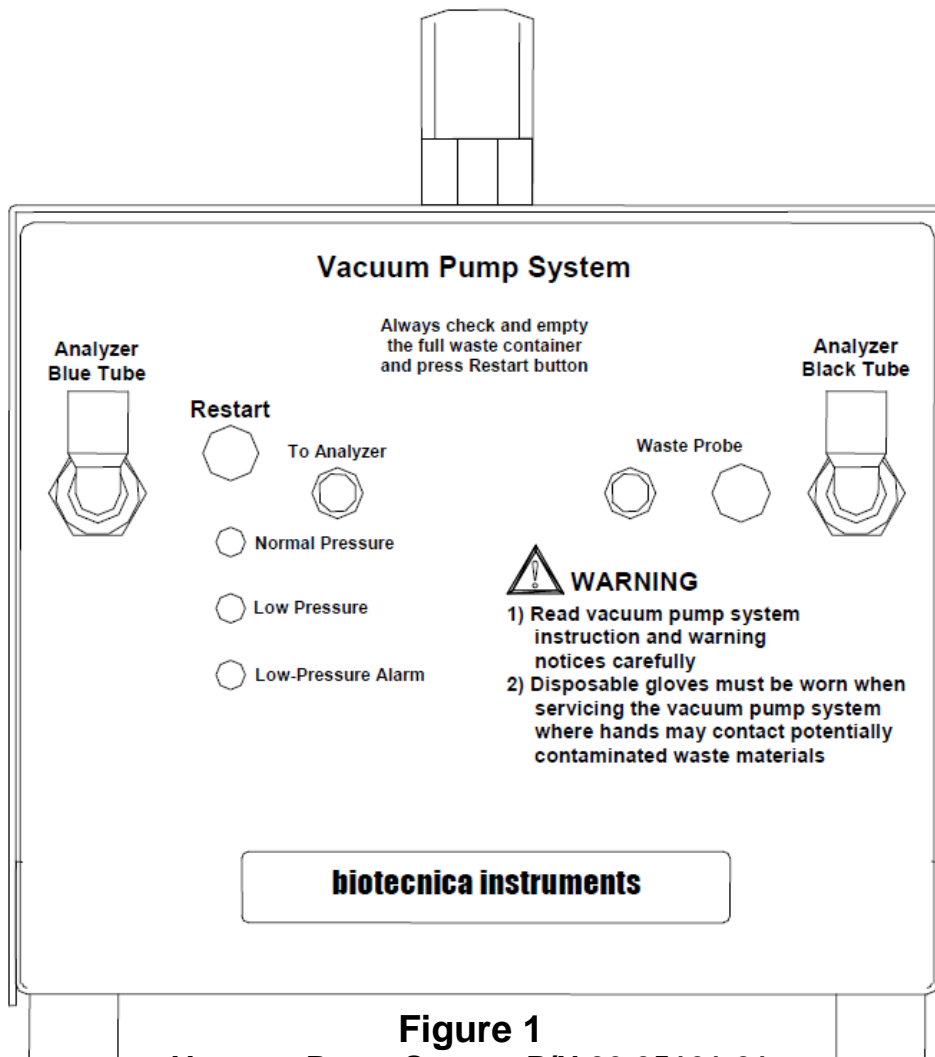
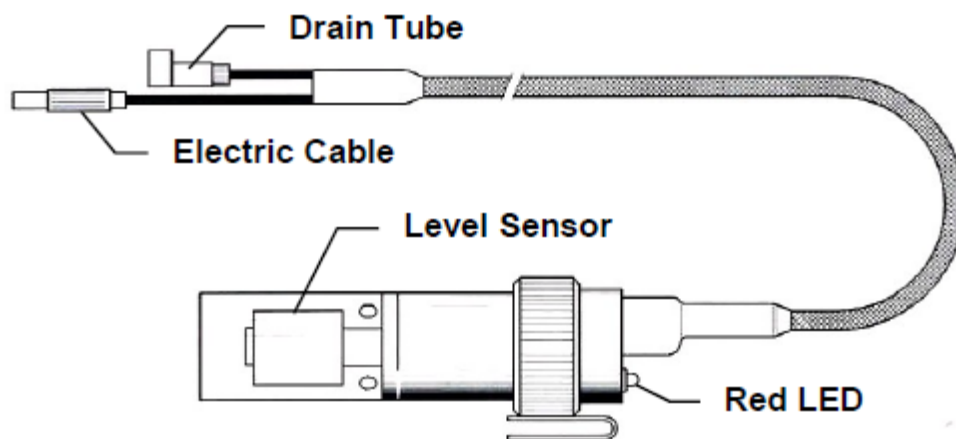

Figure 1
Figure 3
- 1) Connect the Blue and Black waste tubes from the right side of the analyzer to the appropriate quick connect on the vacuum pump cabinet front panel (Fig.1).
- 2) Connect the Waste Probe electric cable (liquid level detector) and the drain tube of to the vacuum pump cabinet front panel (Fig.1 and Fig.3).